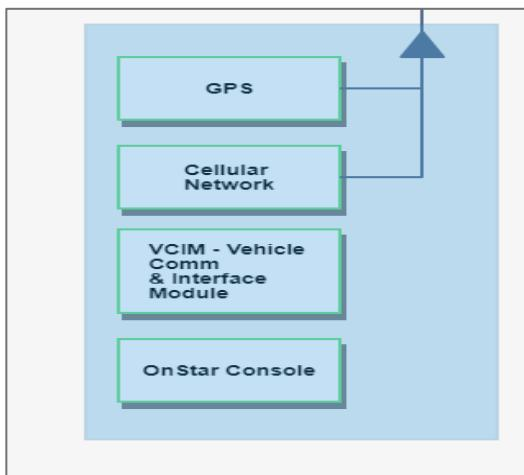

Figure 28. Lasso selection is done by holding the **Shift** key and dragging the mouse over the area containing the elements to be selected.
- (2) **Lasso**: Hold the Shift key, select all the four-part objects by a lasso (Figure 28), and draw a link from the **OnStar System** to one of the things in the selected group.